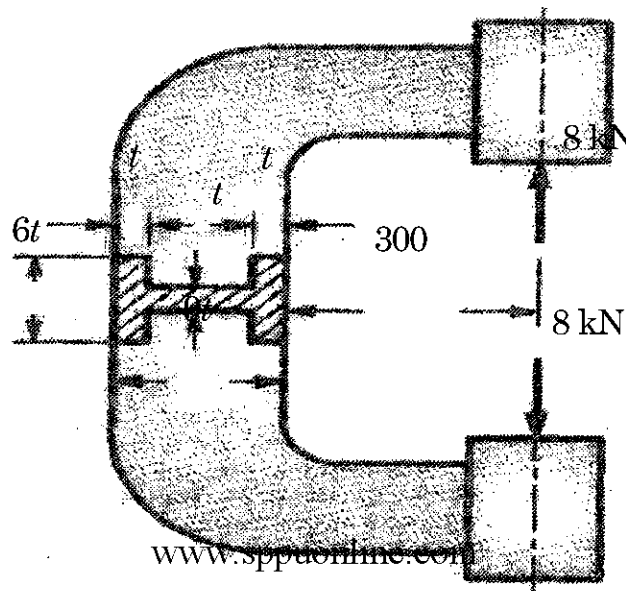

Fig. 9
- (c) A C-frame subjected to a force of 8 kN is shown in Fig. 9. It is made of gray cast iron FG 300. If factor of safety is 5, determine the dimensions of the cross-section of frame. [6]